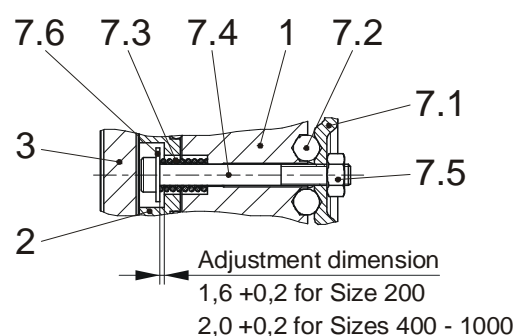

Fig. 9
By lifting the hand release levers (7.1) up from the steel balls (7.2), both cap screws (7.4) incl. washers (7.6) together with the armature disk (2) are pulled against the coil carrier (1) (Fig. 9). After this, the rotor (3) is free and the brake is released.